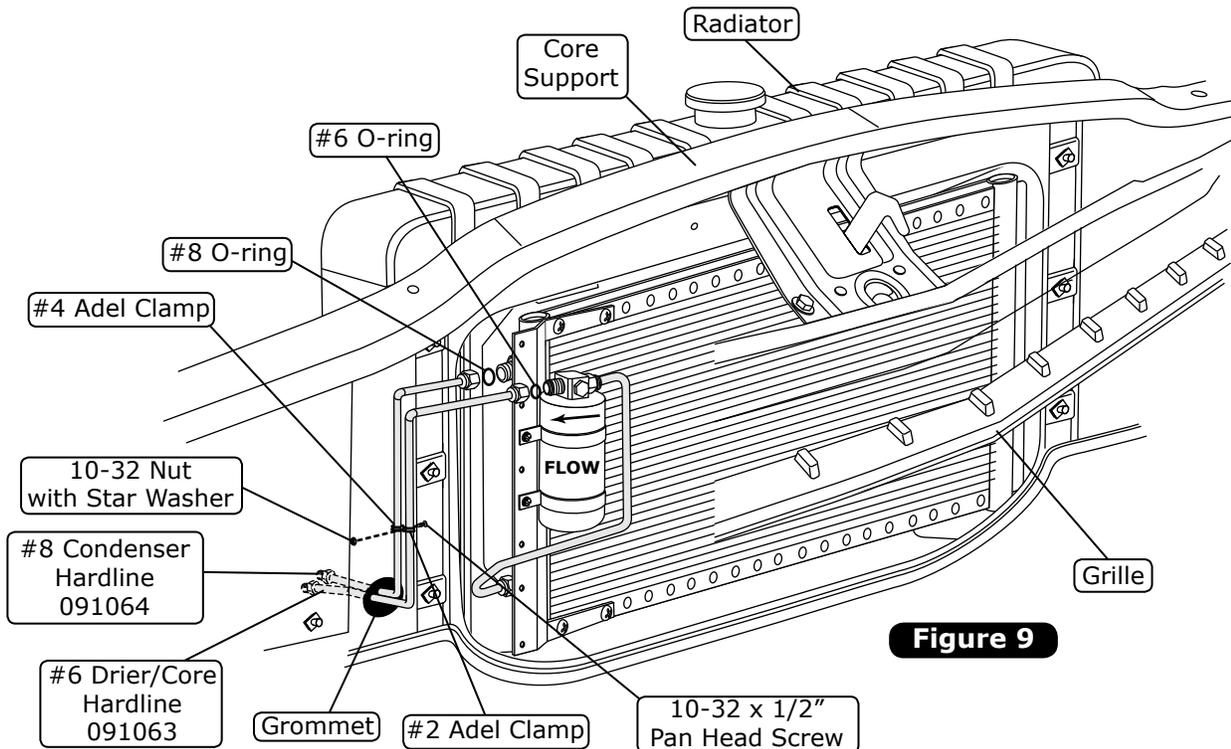

Figure 9
1. Install the grommet into the core support (See Figure 9, below).
2. Lubricate a #6 O-ring and a #8 O-ring (See Figure 5, Page 10), and install the #6 drier/core hardline and the #8 condenser hardline as shown in Figure 9, below. Tighten fittings as shown in Figure 5, Page 10.
3. Install (2) Adel clamps as shown in Figure 9, below.